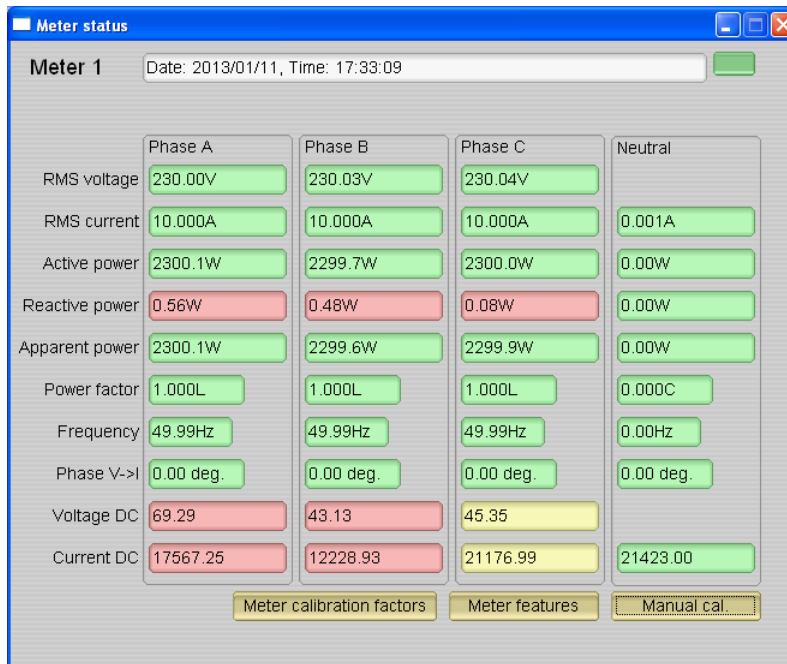
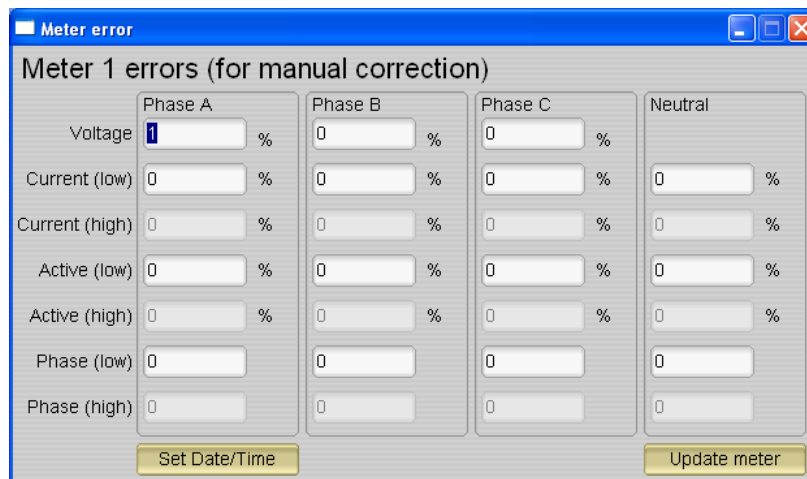

Figure 24. Results Window
Figure 26. Manual Calibration Window
When you click on the green button, the results window opens (see Figure 24). Note that there is a trailing "L" or "C" on the Power factor values to indicate an inductive or capacitive load, respectively.
When the meter software is flashed with the code (available in the zip file), default calibration factors are loaded into these calibration factors (see items 28 to 42 in Section 4.4 for the macro definitions). These values will be modified via the GUI during calibration. The calibration factors are stored in INFO_MEM, and therefore, would remain the same if the meter is restarted. However, if code is re-flashed during debug, the calibration factors will be replaced and the meter must be recalibrated. One way to save the calibration values is by clicking on the "Meter calibration factors" button shown in Figure 24. The meter calibration factors window displays the latest values and this could be used to directly replace the macro definition of these factors in the source code.
3. Click the "Manual cal." button in the Results window (see Figure 24) to open the window shown in Figure 26.
This completes calibration of voltage, current, and power for all three phases. View the new calibration factors by clicking the Meter Calibration factors button of the GUI metering results window (see Figure 24).